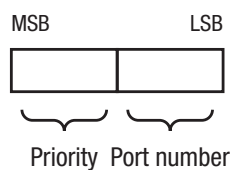

Figure 10: Port Identifier
- ▶ If multiple paths with the same root path costs lead from one bridge to the same bridge, the bridge further removed from the root uses the port identifier of the other bridge as the last criterion (see fig. 10). In the process, the bridge blocks the port that leads to the port with the worse ID. If 2 ports have the same priority, the ID with the higher port number is the worse one.